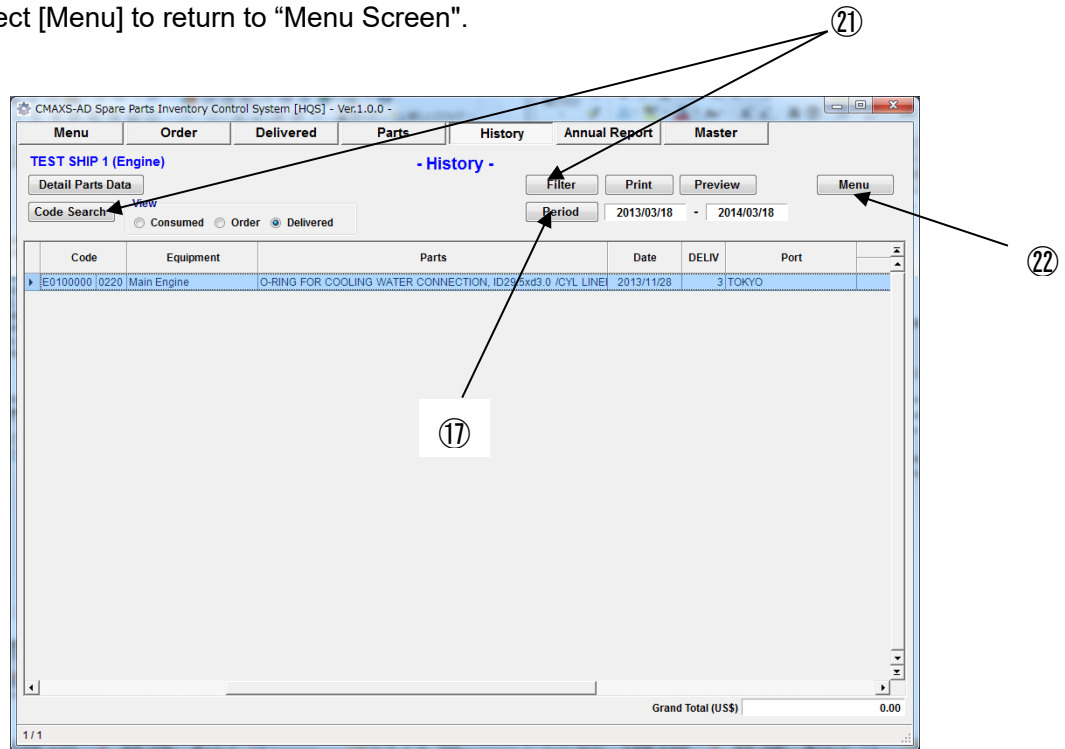

Fig.10-6 History [Delivered Parts] Screen
(16) "History (Delivered Parts) Screen"(Fig.10-6) is displayed.